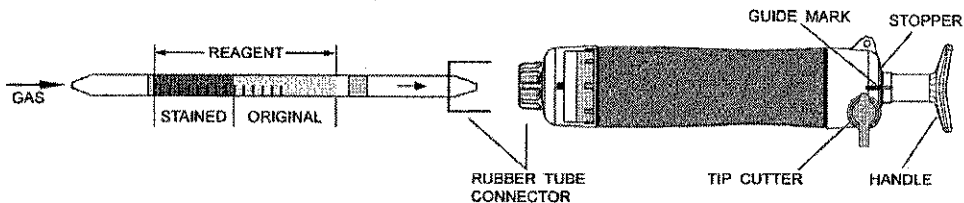

Fig.1
- ① Break both ends of the detector tube.
- ② Insert the detector tube into the aspirating pump securely as shown in Fig.1. (Arrow mark shall point to the pump.)
- ③ Align the guide marks on the shaft and stopper of the aspirating pump.
- ④ Pull the pump handle at a full stroke until it locks and wait for 1.5 minutes or until the completion of sampling is confirmed with the flow indicator of the pump (See descriptions about the flow indicator in the instruction manual of the pump).
- ⑤ Push back the handle without removing the detector tube from the rubber tube connector so that air in the pump will be discharged perfectly. Then repeat the step ④ once.
- ⑥ On completion of sampling, read the scale at the maximum point of the stained layer.
- ① Temperature; Correct the tube reading by following temperature correction table.